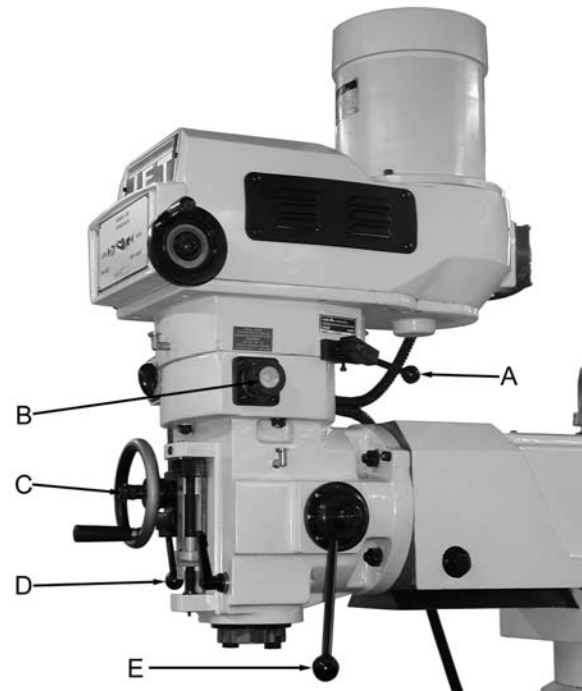

Figure 7
To change from high to low speed range, move lever (A, Fig. 7) by pressing in and rotating almost 180. Do not change gears while the spindle is running.
1. Disengage automatic feed by pulling out and turning knob (B, Fig. 7) so that the pointer indicates towards the front of the machine.
2. Locate the feed reversing knob (C, Fig. 7) in the center or neutral position.
3. Engage feed trip lever (D, Fig. 7) by pulling away from the head assembly.
1. Disengage automatic feed by turning knob (B, Fig. 7) so that the pointer indicates towards the front of the machine.
3. Disengage feed trip lever (D, Fig. 7) by pushing towards head assembly.
4. Engage the manual quill handle (E, Fig. 7) and push, or pull to raise, or lower the quill.